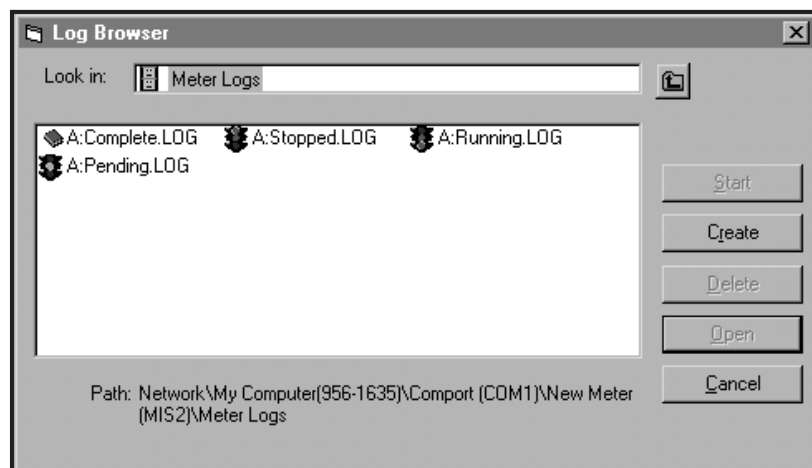

Figure 25: Log Browser Window
3. Double-click on *PC Logs* to access the stored PC logs, or on the *communication port name* and the *meter name* to access the stored meter logs. In either case, the *Log Browser* appears similar to *Figure 25* below.